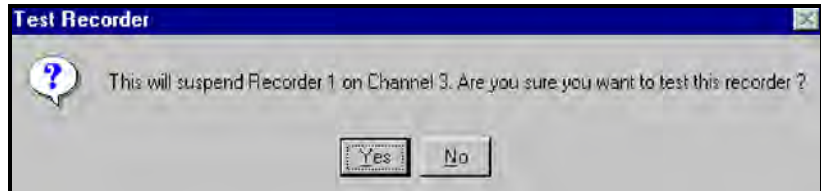

Figure 3-10: Test Recorder Prompt
2. A window similar to Figure 3-10 below should appear, asking if you want to test the Recorder. Press Yes.